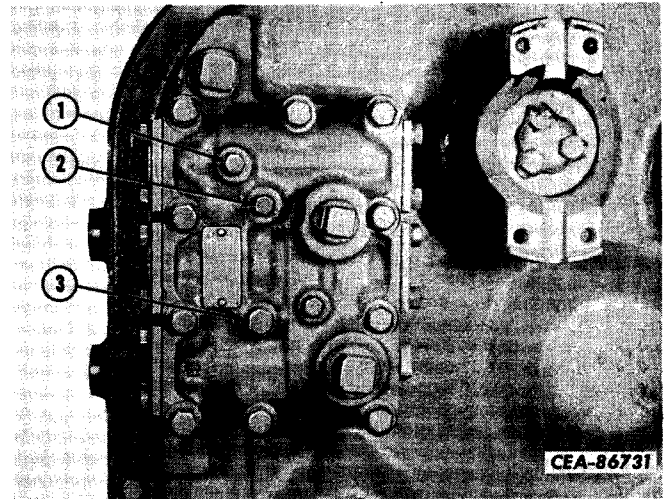

Figure 1-43
- c. Service gauge may be attached to clutch pressure tap on main regulator valve body (refer to Fig. 1-43).
- b. Service gauge may be attached to converter "IN" tap on main regulator valve body (refer to Fig. 1-43).
- b. Service gauge may be attached to lube pressure tap on main regulator valve body (refer to Fig. 1-43).